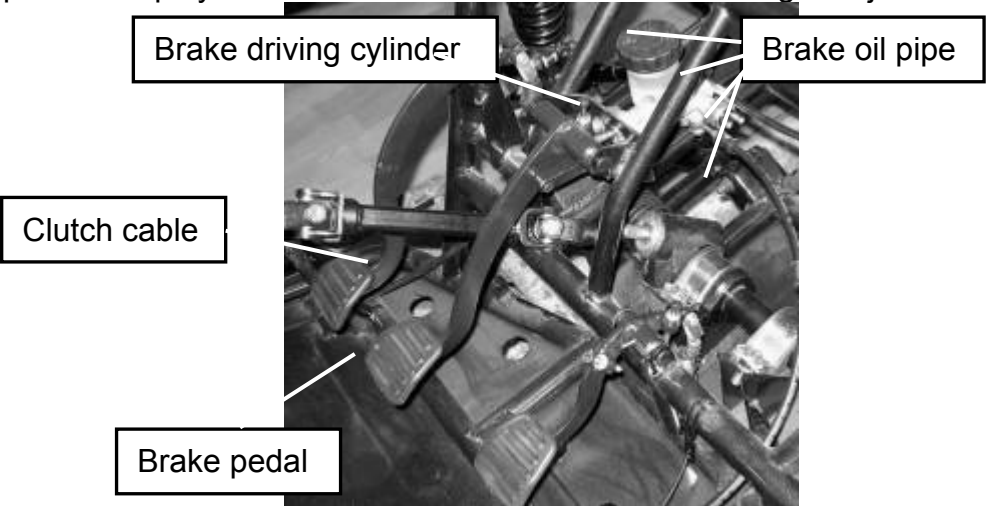

Figure 4
5. Check the clutch cable, Assure the cable snaps back and has a smooth operation. Ensure the clutch can operate smoothly. Adjust if necessary, or replace the clutch if necessary. (See Figure 4)
7. Check Throttle. Check for smooth operation. Ensure the throttle “snaps” back to idle. (See Figure 4)
12. Check Brake Light. Check for proper operation. (Figure 4)
13. Check Wheels. Check for tightness of wheel nuts and axle nuts; check that axle nuts are secured by cotter pins. (See Figure 4)